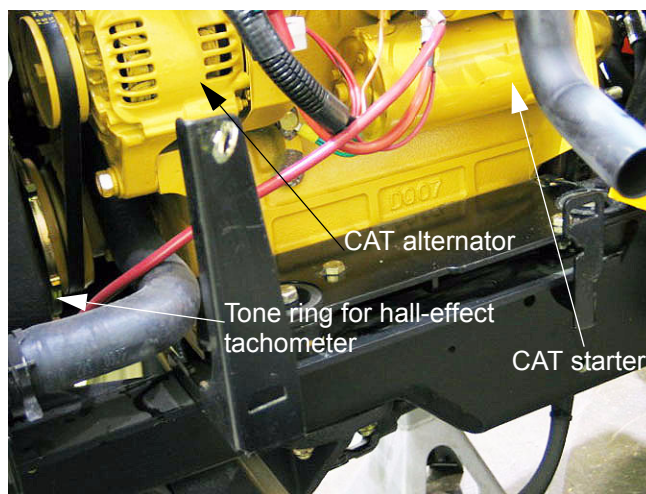

Figure 1.10
- 1.10. Charging systems differ between the engines: the diesel engines have stand-alone alternators with integrated voltage regulator-rectifiers. See Figure 1.10.